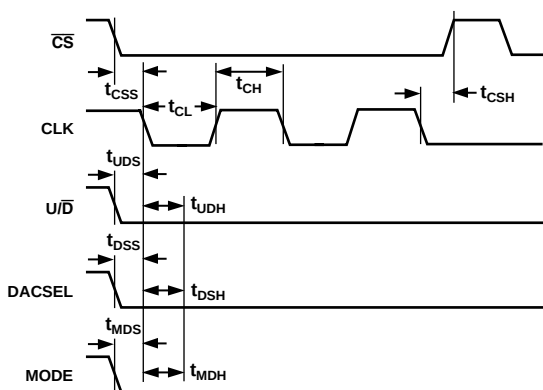

Figure 2. Detail Timing Diagram
The AD5222 provides a 128-position, digitally-controlled, variable resistor (VR) device. Changing the VR settings is accomplished by pulsing the CLK pin while $\overline{CS}$ is active low. The U/ $\overline{D}$ (UP/DOWN) control input pin controls the direction of the increment. When the wiper hits the end of the resistor (Terminal A or B) additional CLK pulses no longer change the wiper setting. The wiper position is immediately decoded by the wiper decode logic changing the wiper resistance. Appropriate debounce circuitry is required when push-button switches are used to control the count sequence and direction of count. The exact timing requirements are shown in Figure 2. The AD5222 powers ON in a centered wiper position, exhibiting nearly equal resistances of R_{WA} and R_{WB} .